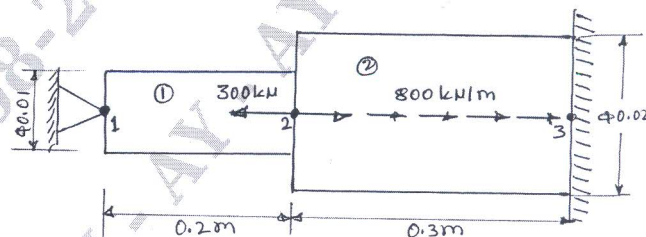

Fig.Q.4(a)
- 4 a. Obtain displacement at node '2', reactions, stresses and strains in the circular solid stepped bar as shown in Fig.Q.4(a). Take $E_1 = 70\text{GPa}$, $E_2 = 200\text{GPa}$ for the element (i) and (ii) respectively. (12 Marks)